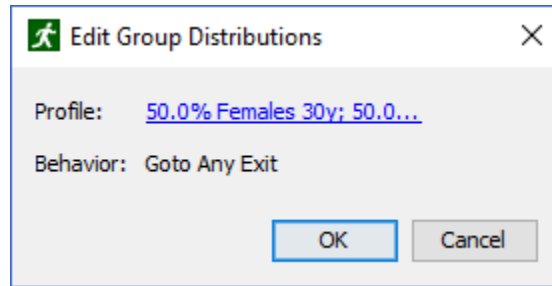

Figure 110. Edit Group Distributions dialog
1. Select one or more groups of occupants from the Navigation View, right-click them, and from the right-click menu, select **Properties**, or double-click the occupant group. The Edit Group Distributions dialog will appear as shown in Figure 110.